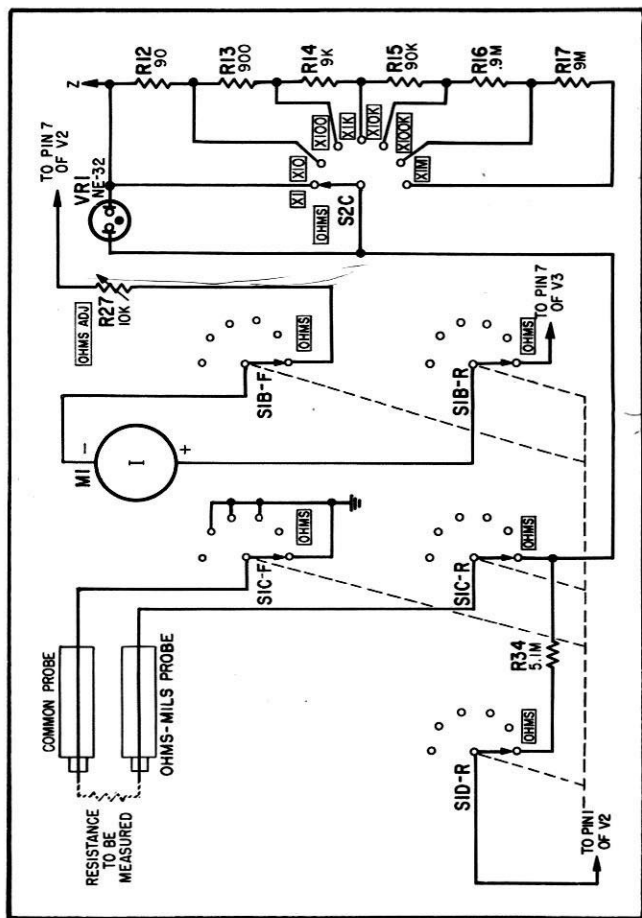

Figure 4-5. Ohmmeter Circuit, Schematic Diagram
d. OHMMETER CIRCUIT (see figure 4-5). - The ohmmeter circuit consists of a group of precision resistors in the ohmmeter multiplier connected in series with the internal dc voltage supply.
(1) The ohmmeter receives its voltage from the regulated heater supply, thus eliminating the problem of periodic battery replacement.
(2) The ohmmeter supply is at a 10 ohm impedance. When a resistance of 10 ohms is being measured, one half of the voltage is across the resistance and one-half is across the power supply, thus giving a half-scale indication or 10 ohms.
(3) When the ohmmeter test leads are shorted together the voltage applied to the bridge input circuit is zero. When the test leads are disconnected from each other, the full voltage of the ohmmeter power supply is applied to the bridge circuit. Under this condition the sensitivity of the bridge circuit is varied by the OHMS ADJ. control until the dc voltage which is applied to the bridge is sufficient to cause the meter to indicate full scale or "infinity" ohms.
(4) When an unknown resistance is connected between the OHMS-MILS probe and the COM probe, it is placed in series with one or more of the precision resistors in the ohmmeter multiplier. The resulting voltage drop across the unknown resistance is proportional to the value of the unknown resistance. This voltage drop is applied to the grid of the bridge circuit. The resultant meter deflection is indicated in terms of ohms.
(5) Lamp VR1 is connected across the input leads so that if a voltage is accidentally fed to the ohmmeter input the lamp will conduct causing fuse F1 to blow and prevent dam-